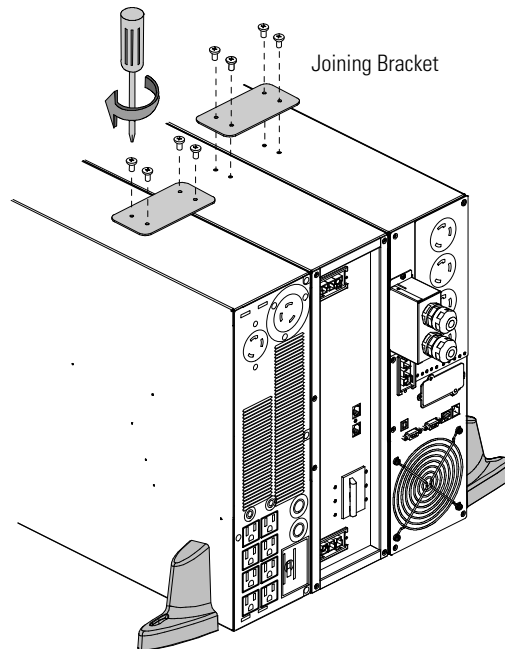

Figure 4. Installing the Joining Brackets
5. Align each joining bracket with the adjacent cabinet screw holes and secure with the supplied screws (see Figure 4).